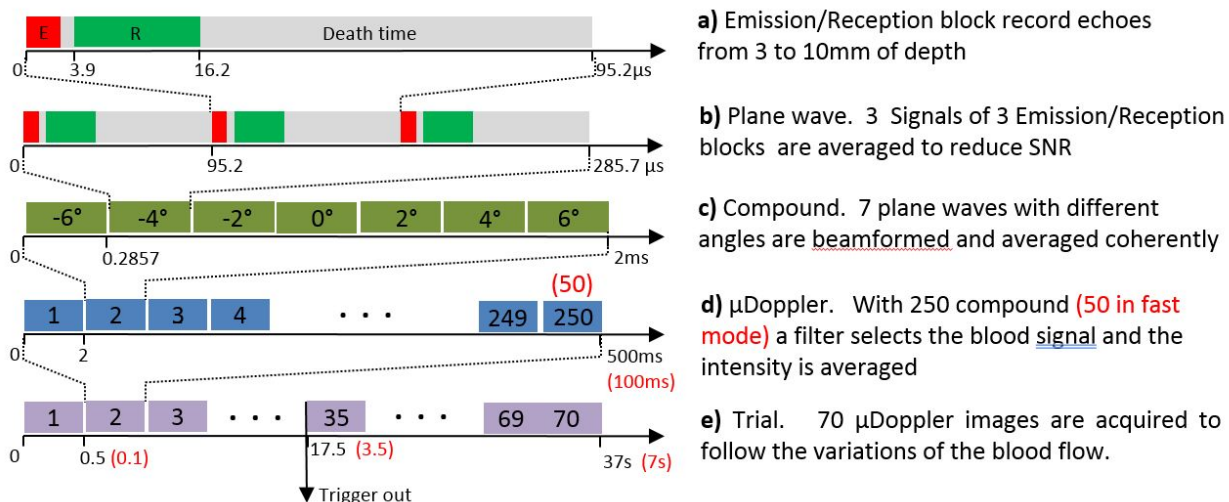

Figure 3. Ultrasound sequence.
The ultrasound sequence is detailed in Figure 3:
- The E/R block is repeated 3 times to average the acquisition and thus, reduce the single to noise ratio. The total duration of a plane wave acquisition rises to 285.7 μs (3.5 kHz). The signal is beam-formed to produce a plane-wave ultrasound image (Figure 3.b).
- A set of 7 tilted plane-wave images (-6, -4, -2, 0, 2, 4, 6) generated in 2 ms (500 Hz) are coherently added to produce a high-quality compound image (Figure 3.c).
- 250 compound images (50 in fast mode) are concatenated into a single Doppler image in 0.5 s (0.1 s in fast mode; Figure 3.d).
- A functional trial is composed of 70 Doppler images (35s in normal mode and 7 s in fast mode). A trigger out is sent at image 35 (17.5 s in normal mode, 3.5 s in fast mode) (Figure 3.e).